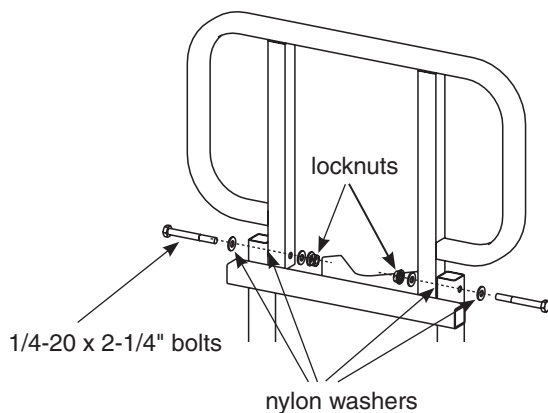

FIGURE 1
1. Bolt the metal seat frame (C30) onto the seat post using the (2) provided 1/4-20 x 2-1/4" bolts, locknuts and (6) nylon washers. **SEE FIGURE 1. Be sure not to over tighten or crush tubing when tightening!**